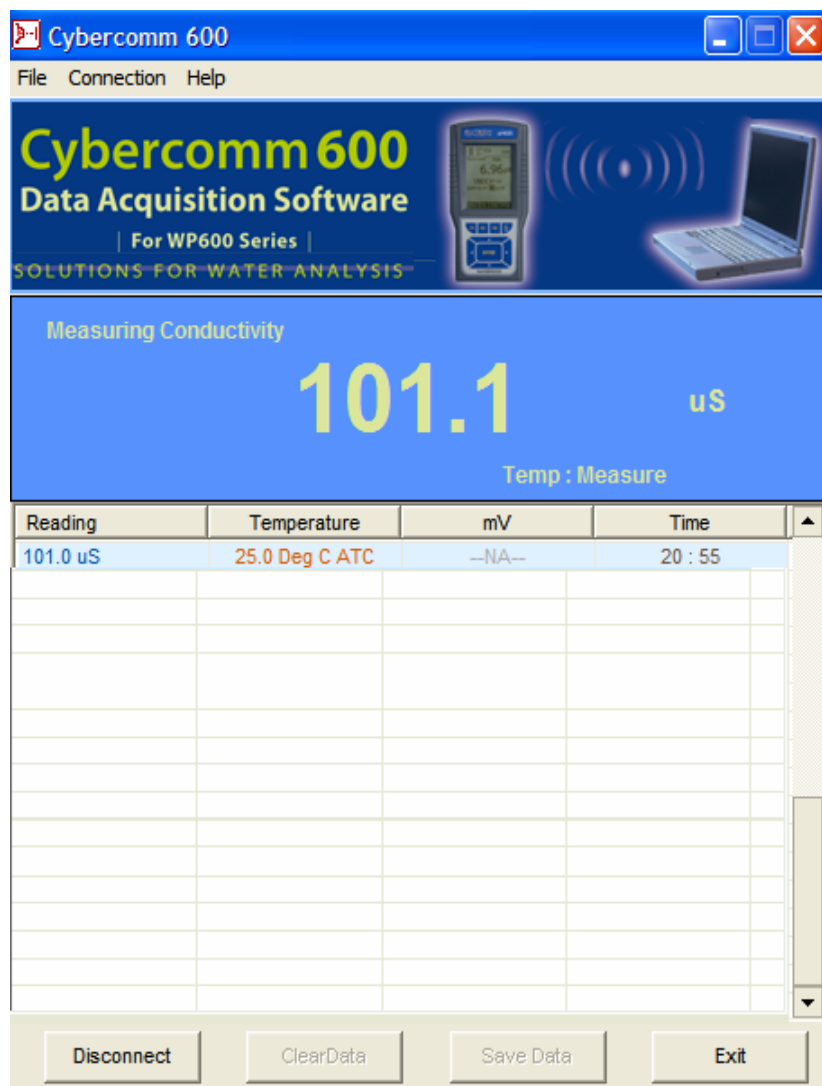

Figure 30 : Transfer Stored data to CyberComm
9. The CyberComm establishes connection with meter through IrDA and sends the data (Figure 30). The connection stops automatically once the data is transferred.